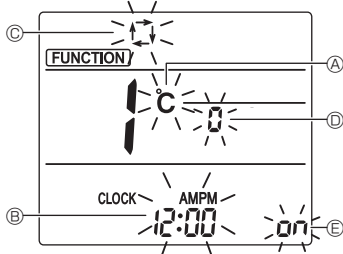

Fig. 4-11
The Screen display setting screen will be displayed. (Fig. 4-11)
4.12.2. Changing the temperature unit (Fig. 4-11 Ⓐ)
- Press the **TEMP** button ⑤.
- Each time the **TEMP** button ⑤ is pressed, the setting switches between **°C** and **°F**.
4.12.3. Changing the time display (Fig. 4-11 Ⓑ)
- Press the **TIME** button ⑥.
- Each time the **TIME** button ⑥ is pressed, the setting switches between **12:00^{AMPM}** and **24:00^{AMPM}**.
4.12.4. Changing the AUTO mode (Fig. 4-11 Ⓒ)
- Press the **MODE** button ⑦.
- Each time the **MODE** button ⑦ is pressed, the setting switches between **Ⓜ** and **Ⓜ**.
4.12.5. Changing the pair No. (Fig. 4-11 Ⓓ)
- Press the **UP** button ④.
- Each time the **UP** button ④ is pressed, the pair No. 0-3 changes.